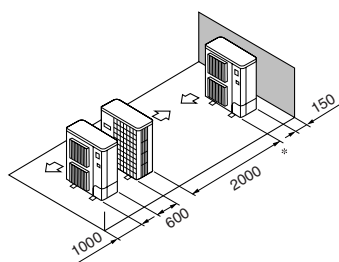

Fig. 2-12
- ⑤ Enkelt parallel enhed arrangement (Fig. 2-12)